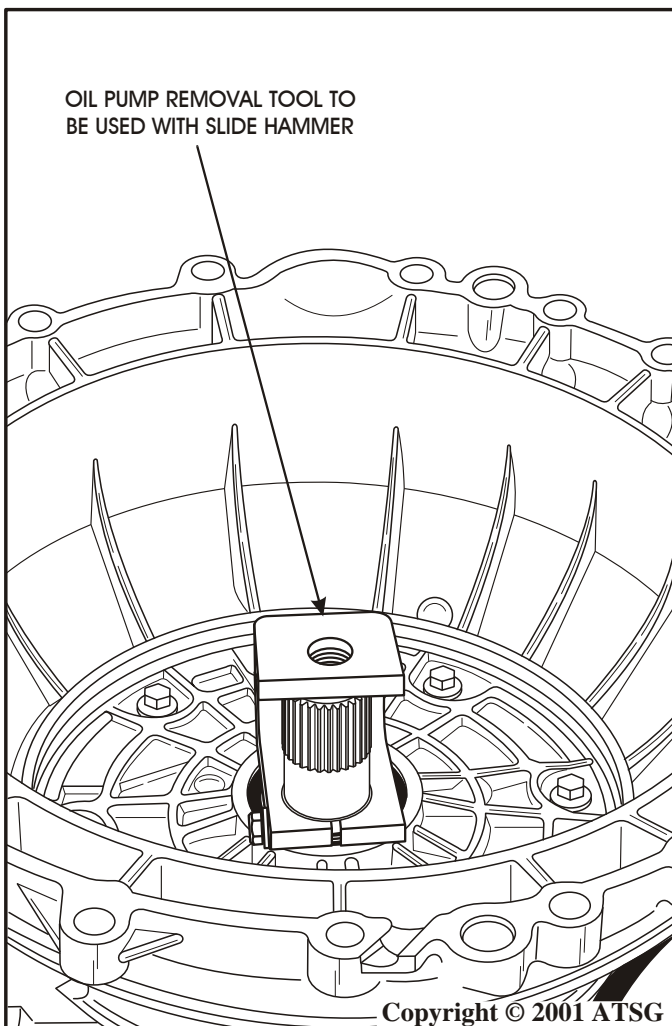

Figure 37
34. Install the special pump puller, to be used with a slide hammer, as shown in Figure 37.